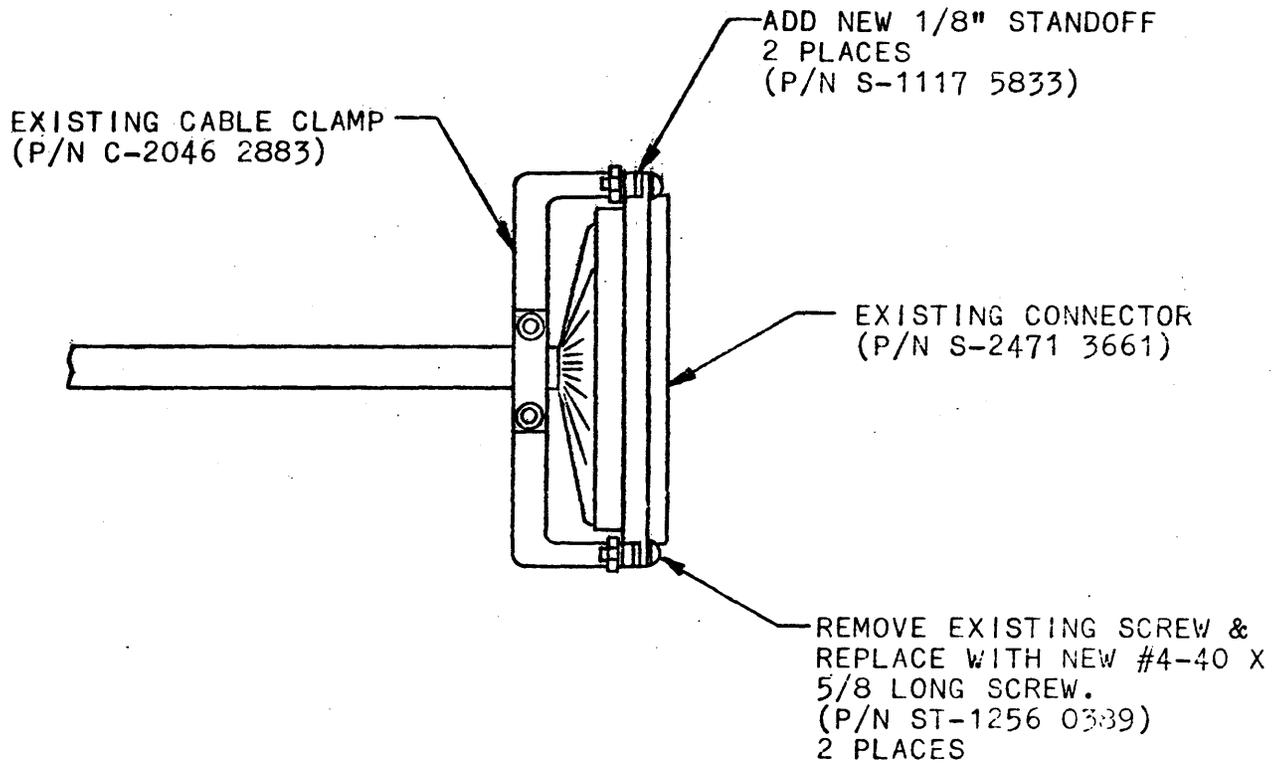

Figure 1
1. Dissassemble cable and add standoffs as shown in figure 1. Use longer screw provided when reassembling.